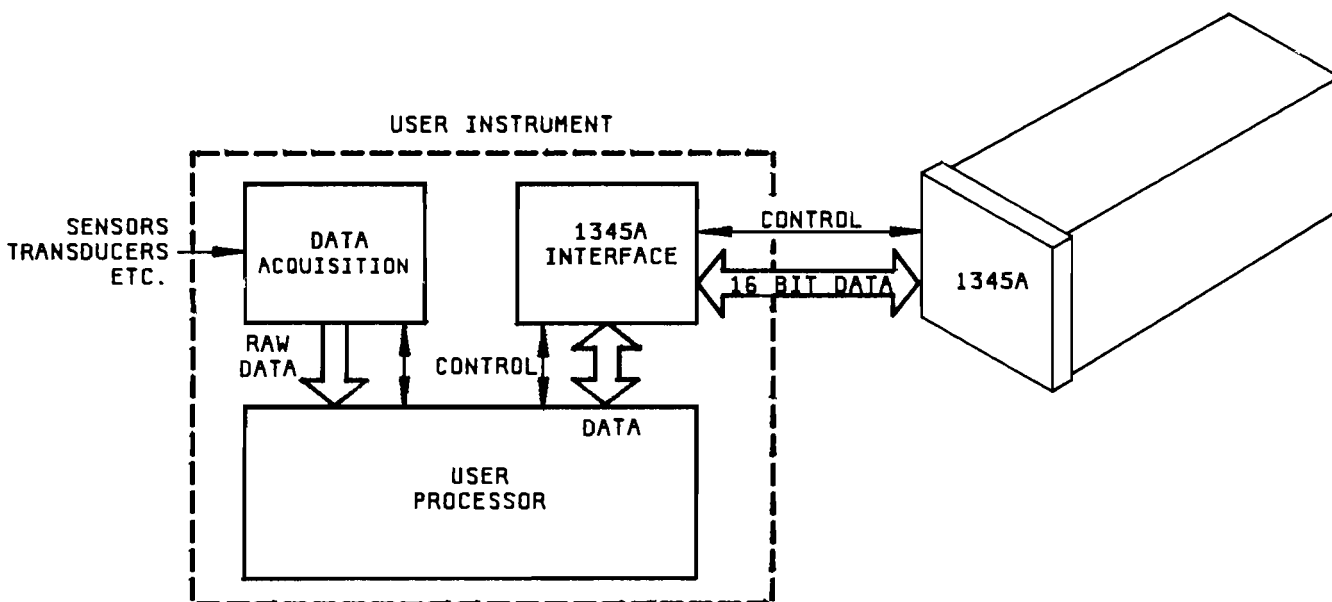

Figure 3-27. Example Instrument With Memory Option 704
Using the memory option (704) in a 1345A system requires some additional considerations not necessary with a standard 1345A. Figure 3-27 contains an example instrument block diagram with the memory option installed.